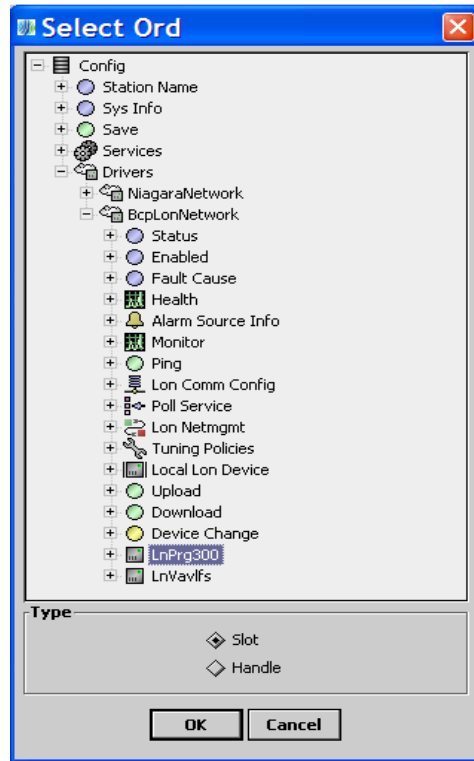

Figure 47: Selecting the Device
5. Set the Wizard to launch in the commandIndex. This number corresponds to the list of wizards shown when you right-click the device selected in Figure 47 for the LaunchButton wizard action and select **Wizards**.